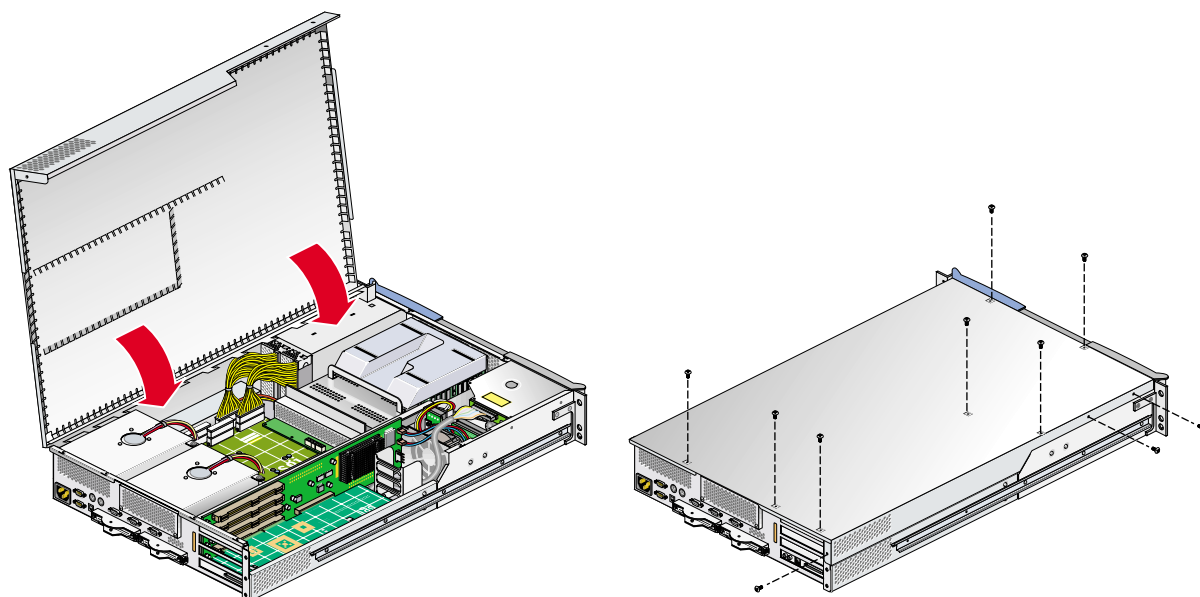

Figure 6-17 Close and Screw Down Cover
14. Close the hinged cover on the system and screw in the ten Phillips screws to secure the cover, as shown in Figure 6-17.